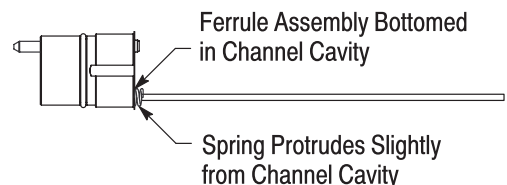

Figure 11
2. Align the end of the ferrule assembly with the appropriate channel cavity of the EB insert, and insert the ferrule assembly into the channel cavity until the O-ring is against the channel cavity. See Figure 11, Detail A. To avoid damage to the fiber, DO NOT push the fiber to install the ferrule assembly.
3. Slide the spring over the fiber until it is against the O-ring of the ferrule assembly. See Figure 11, Detail B. Using the ferrule insertion tool, push the spring until the ferrule assembly bottoms in the channel cavity (the O-ring will be inside of the cavity), and the spring will protrude slightly from the cavity). See Figure 11, Detail B.